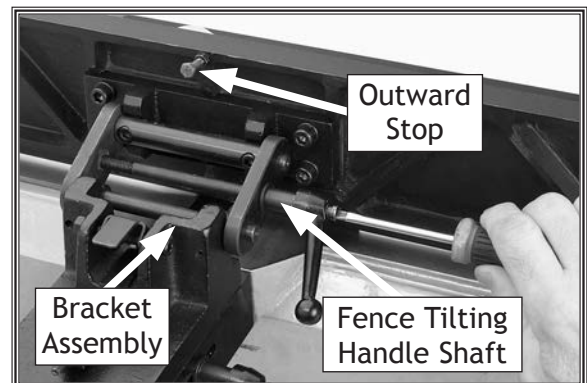

Figure 15. Installing the fence tilting handle.
- Install the fence tilting handle by screwing the handle shaft into the bracket assembly, as shown in Figure 15.